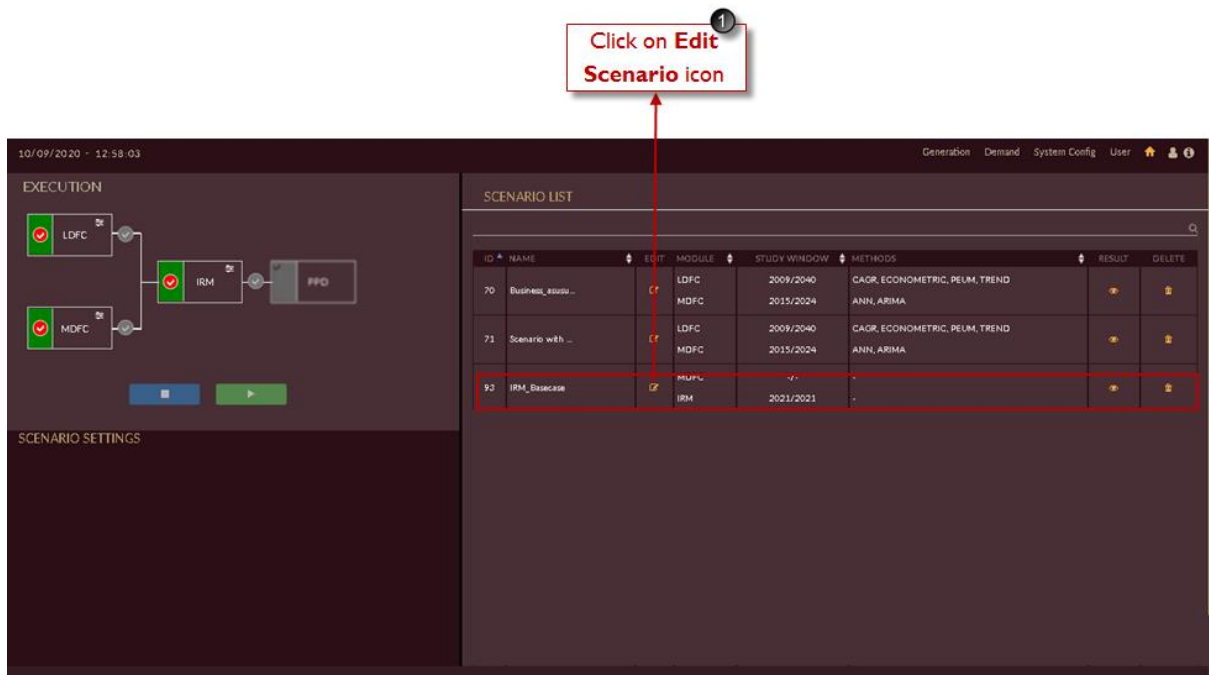

Figure 225. Select IRM Scenario to Execute
- I. Go to scenario list page as shown in Figure 225 and click on **Edit Scenario**  icon for the scenario which you need to execute. Here we are executing IRM Base case scenario.